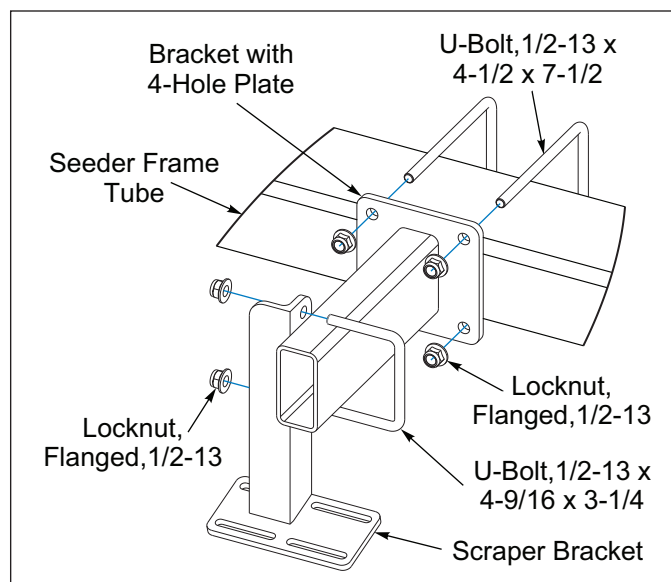

Figure 2-49: Scraper Brackets
3. Attach the Scraper Brackets to the Bracket Tube with a 1/2-13 x 4-9/16 x 3-1/4 U-Bolt and Flange Locknuts. **Do Not** tighten at this time. **See Figure 2-49.**